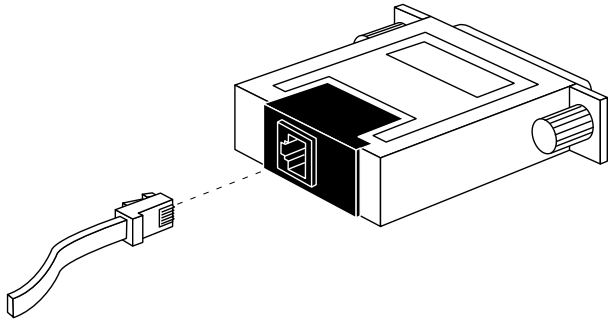

Figure 2-5. Connecting the RJ-45 Cable to the DB-25 DTE Drop Adapter
- 1 Connect the Console Terminal's I/O connector to the RJ-45 cable (the accessory kit includes a cable) using a Telco RJ wire to a DB-25 DTE drop adapter (see Figure 2-5).